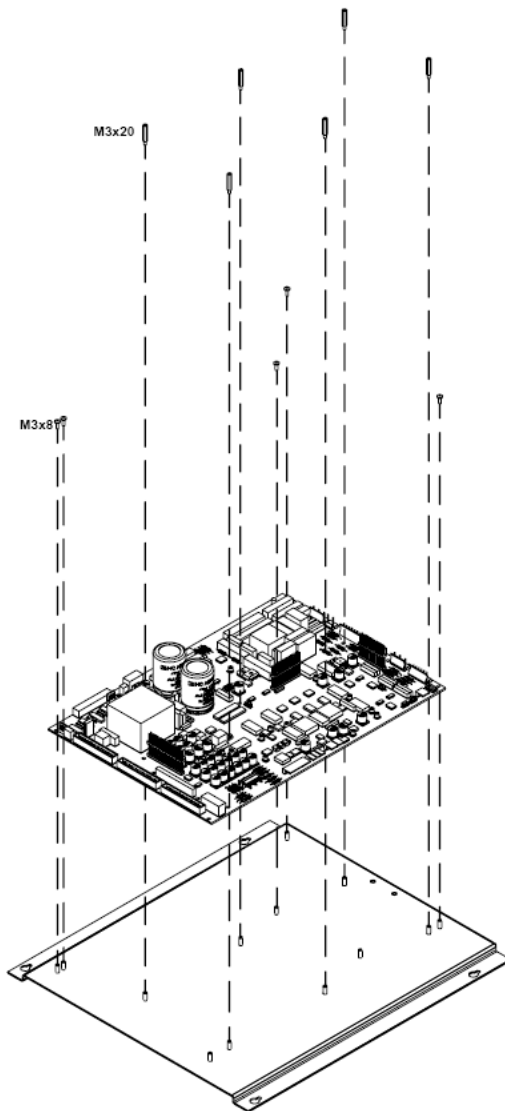

Figure 5.6 (b). Disassembly of the Power Board.
- 4) Connect the Power Board wiring. (figure 5.6(a)).